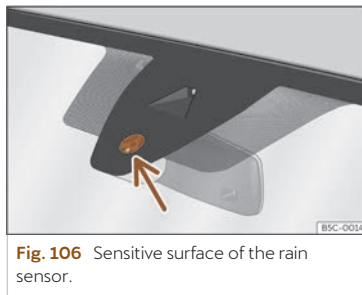

Fig. 106 Sensitive surface of the rain sensor.
The possible causes of anomalies and erroneous interpretations *in the sensitive surface area* >>> **Fig. 106** of the rain sensor are, among others:
- **Dirt:** dry dust, wax, coating on glass (Lotus effect) or traces of detergent (car wash) may reduce the effectiveness of the rain sensor or make it react more slowly, later or not at all. Regularly clean the sensitive surface of the rain sensor >>> **Fig. 106** (arrow) and check for possible damage to the wiper blades.